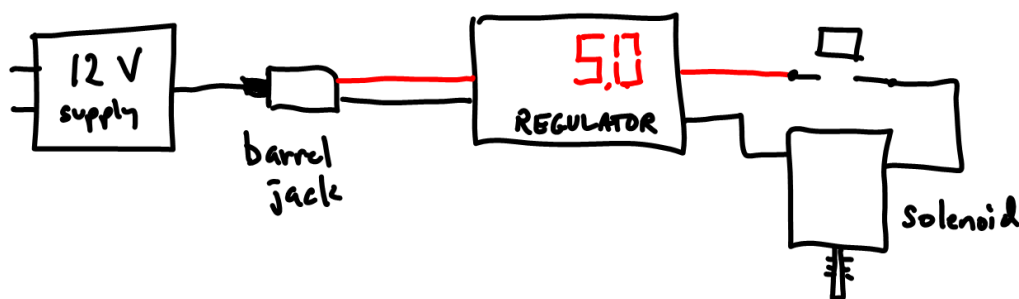

Figure 2: Circuit for testing the solenoid.
6. Unplug the 12V supply and screw two wires into the output. Use red for positive and black for negative (ground). Do not strip them more than 1/4” to avoid short circuits. Wire the 5V output through a button and your solenoid, as shown in Figure 2.